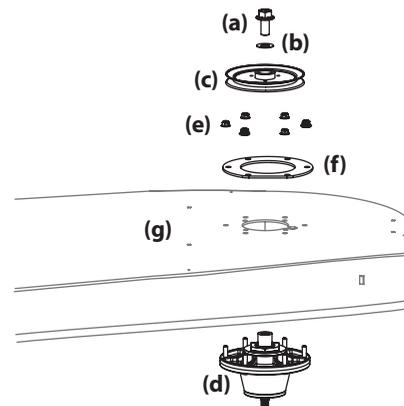
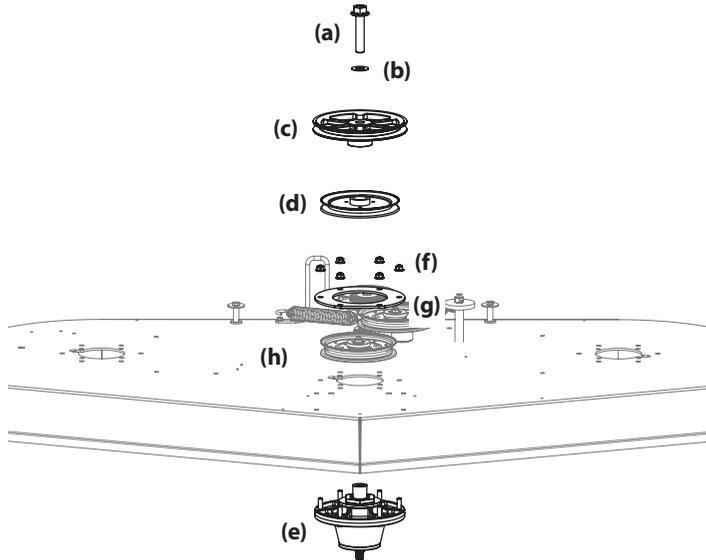

Figure 47
Figure 48
6. To remove the left and right spindle assemblies (Figure 47):
- h. Remove the six (6) flange lock nuts (e) securing the left and right spindle assemblies (d) and the support plates (f) to the deck shell (g).
9. To remove the left and right spindle assemblies (Figure 48):
13. Reverse the process to install the spindle assembly. When installing the new spindle assembly be sure to install the hardware exactly as shown in Figure 47 or Figure 48. Torque the hex flange bolts to 250 ft-lbs. (338.95 N-m) and the flange lock nuts to 21-32 ft-lbs (28.47-43.39 N-m).